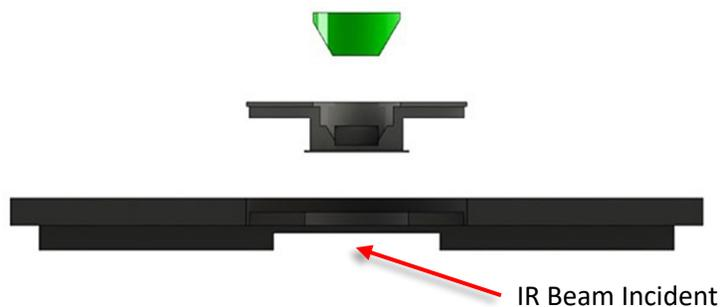

Figure 6. Orientation of FAC in crystal holder in top plate
**IMPORTANT:** When placing the crystal holder with the FAC in the top plate, be sure the FAC is oriented correctly to allow for incident light through the FAC (Figure 6).
- Carefully attach the cell to the VeeMAX III Jackfish top plate (round opening to accommodate the Jackfish Cell) using the six screws (8-32) provided. These screws require a 9/64" hex wrench. Be sure to stabilize the cell and evenly tighten the screws in a star pattern to distribute pressure evenly while tightening (Figure 6). Tighten each screw with a 1/4 turn on each rotation to ensure an even distribution of pressure.